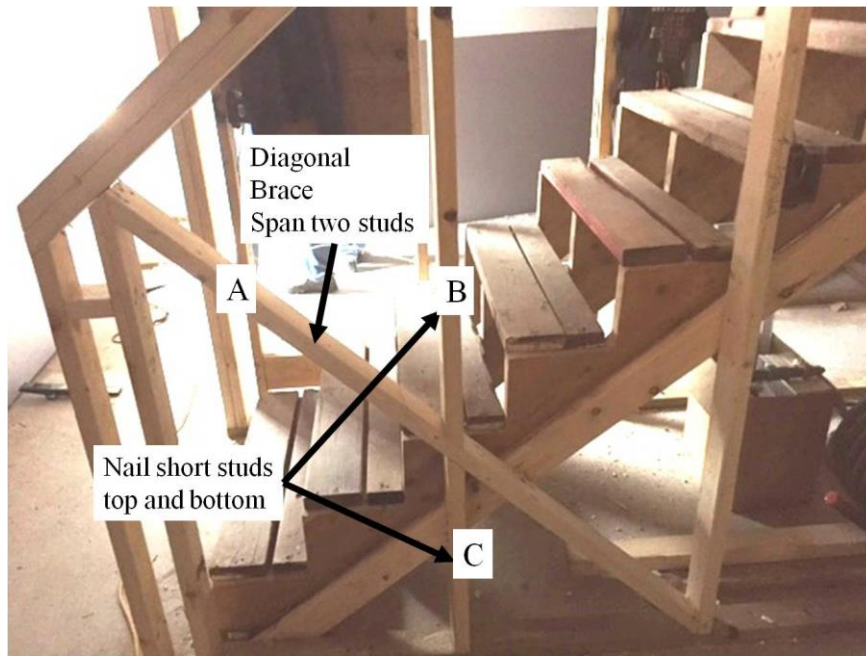

Figure 6-7. Stairway Wall Bracing.
- To stiffen the wall, cut and nail an angled 2x4 brace between the bottom of the uncut stud and the top of the next cut stud, through the space where the stud was removed earlier (see "A" in Figure 6-7 above).
10. Measure and cut, at the same angle, two 2x4s to fit above and below the angled brace as shown in Figure 6-7, “B” and “C”, respectively. Toenail the lower (“C”) to the bottom plate and through the diagonal brace into the top. Nail the upper (“B”) through the upper plate into the top end and then through the diagonal brace into the lower end. Use two 3¼” Paslode nails at each location.